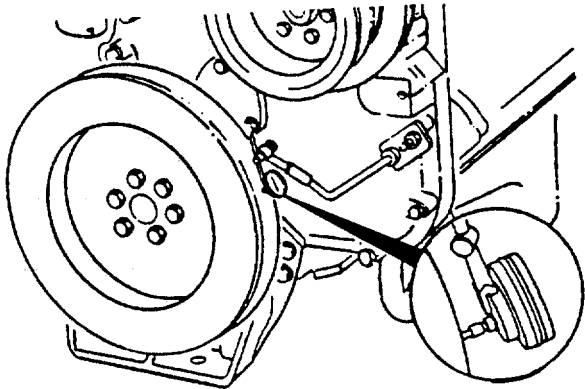
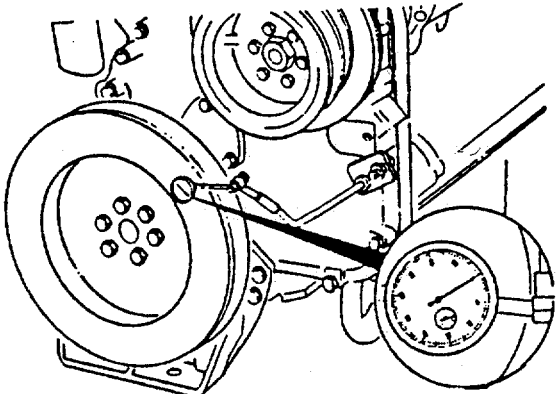
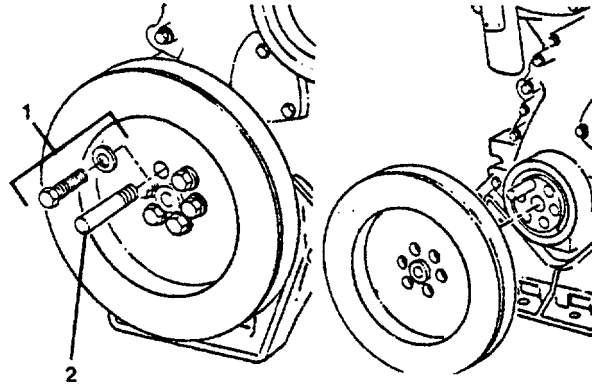

FIGURE 3-81. Measuring Dampener Eccentricity.
FIGURE 3-82. Measuring Dampener Wobble.
FIGURE 3-83. Dampener and Pulley Removal.
- (1) Install the dial indicator on the gear cover as shown in Figure 3-81.
- (2) Rotate the crankshaft and record the indicator movement.
- (3) Replace the vibration dampener if the eccentricity exceeds 0.0004 inch (0.10 mm) per 1.0 inch (25.4 mm) of the dampener diameter.
- (4) Install the dial indicator as shown in Figure 3-82 to measure wobble.
- (5) Push the crankshaft to the front or rear.
- (6) Rotate the crankshaft 360 degrees, maintaining the position of the crankshaft (either toward the front or the rear) in relation to the block.
- (7) Record the total indicator motion.
- (8) Replace the dampener if wobble exceeds 0.007 inch (0.18 mm) per 1.0 inch (25.4 mm) of radius.
- c. Remove one of the capscrews and recessed washers (1, Figure 3-83) that hold the vibration dampener and the pulley to the crankshaft and install a guide stud (2) in the hole.
- (3) Lubricate the capscrew threads and the face of the washers with clean engine oil.
- (4) Install four of the six capscrews.
- (5) Remove the guide studs and install the remaining two capscrews and washers.
- (6) Tighten the capscrews to 190 ft-lb (260 Nm) torque.
- h. After eccentricity and wobble check have been satisfactorily accomplished, leave the dial indicator mounted as shown in Figure 3-81.
- (1) Use a pry bar to move the crankshaft forward and backward while observing the dial indicator gauge.
- (2) End clearance must not exceed 0.022 inch (0.56 mm) with the engine mounted and generator attached. If the measurement exceeds this figure, notify your supervisor. Installation of new thrust washers is required by general support maintenance personnel.